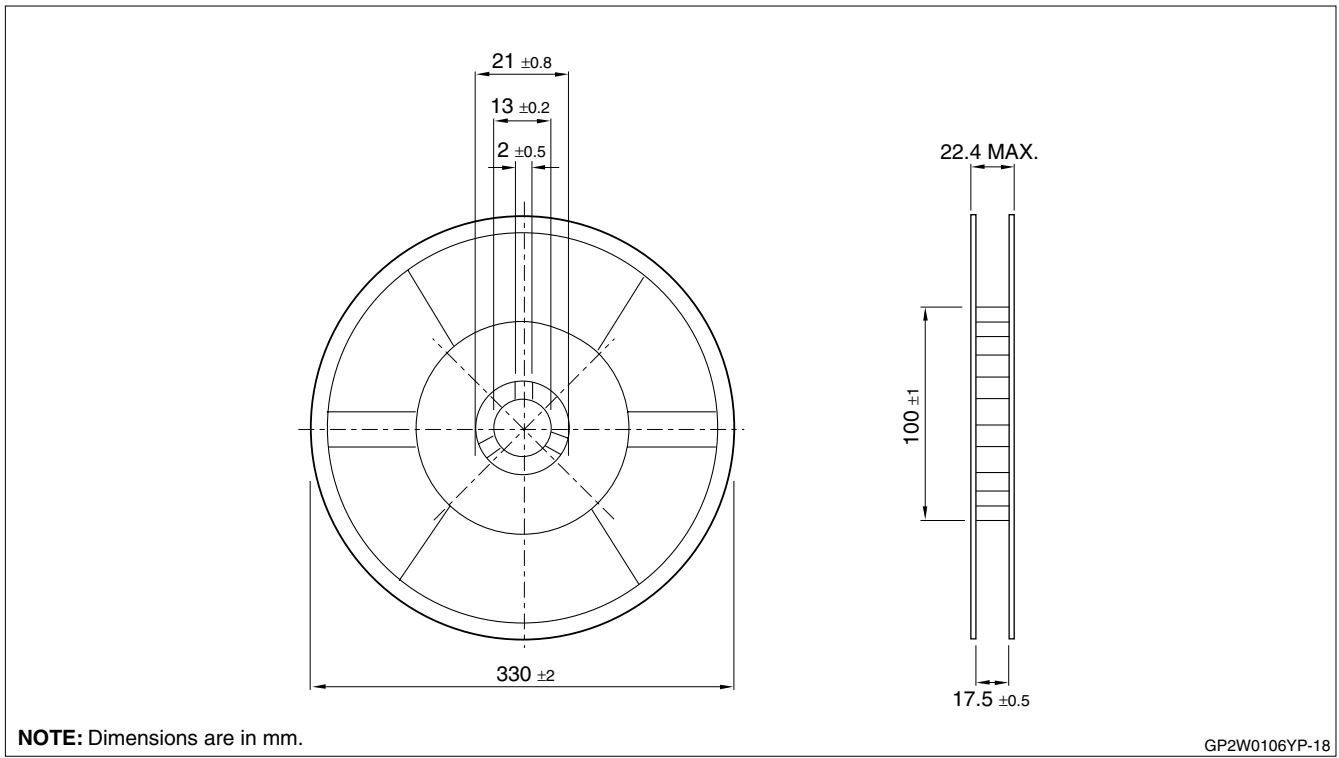

Figure 18. Reel Structure and Dimensions
- Reel structure and dimensions: The taping reel should be conductive plastic with its dimensions as shown in Figure 18.